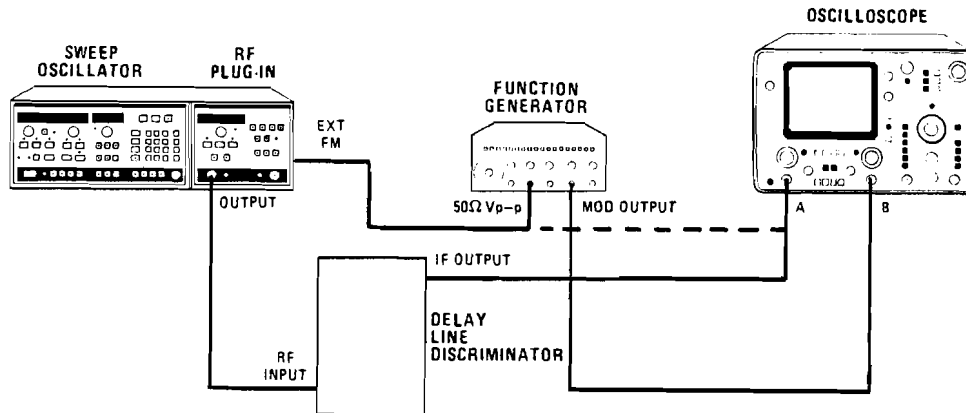

Figure 4-17. FM Frequency Response Test Setup
1. Connect equipment as shown in Figure 4-17. Press 8350A INSTR PRESET, CW and disengage DISPL BLANK, and plug-in CW FILTER.
3. Adjust the oscilloscope with GND reference switched in for a trace on center line then reset oscilloscope to 50Ω input. Connect the function generator output to Channel A and adjust output for 100 mv peak-to-peak on CRT. Reconnect the equipment as shown in Figure 4-17. Check GND reference on oscilloscope. Return oscilloscope to 50Ω input. Adjust CW and CW Vernier control to center trace on CRT.